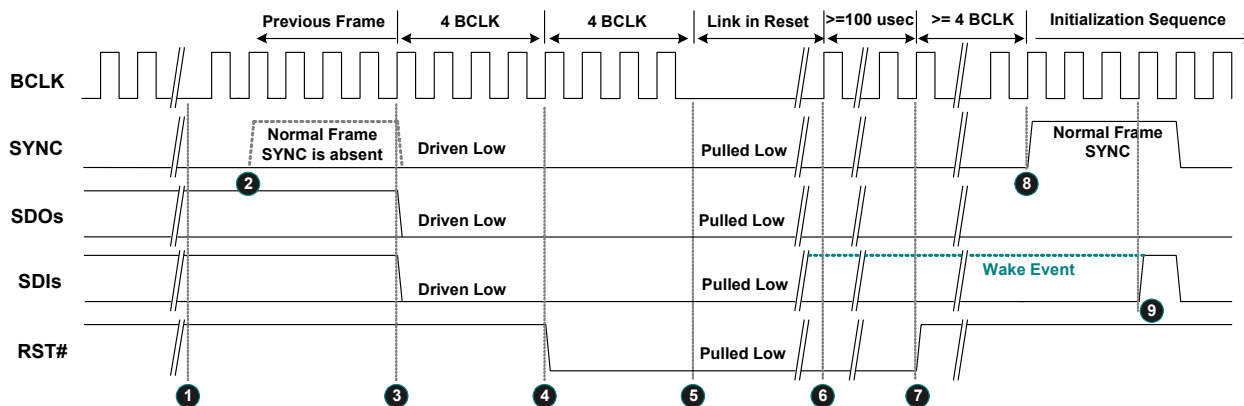

Figure 11. Link Reset Timing
3. Software initiates power management sequences. Figure 11, page 15, shows the ‘Link Reset’ timing including the ‘Enter’ sequence (1~5) and ‘Exit’ sequence (6~9)